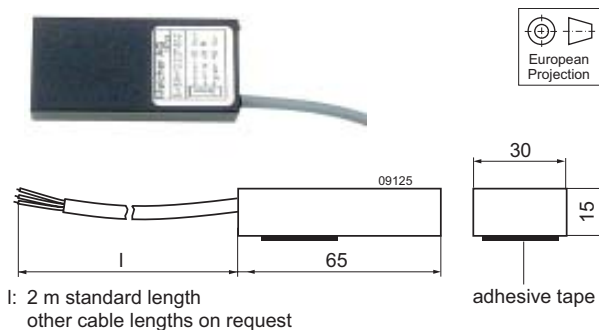

Fig. 16
- Battery sensor [S-KSMH...] for using the regulator as battery charger. Different cell characteristics can be selected; see fig. 16 and the Temperature Sensors Data Sheet BCD20024 on our web site.